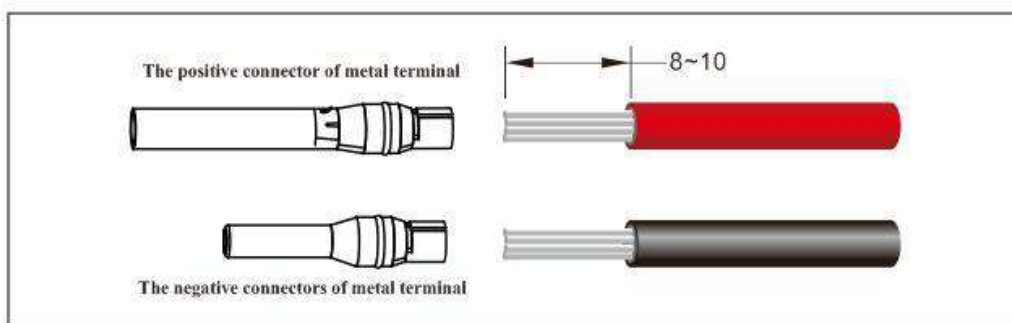

Figure 5.11 Stripping the insulation layer from DC power cables (unit: mm)
Step 1 Remove an appropriate length of the insulation layer from the positive and negative power cables using a wire stripper, as shown in Figure 5.11.